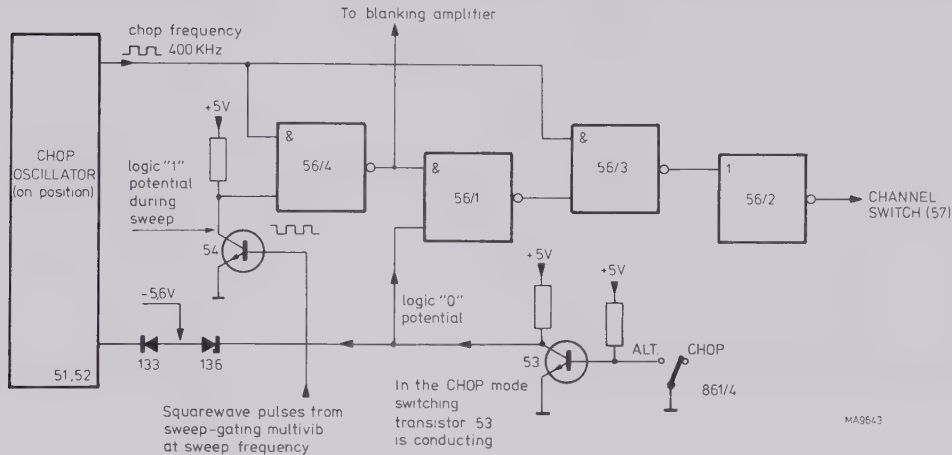

Fig. 3.6. Vertical channel switching – CHOP mode
- The CHOP pushbutton 861/4 disconnects the earth from the base of switching transistor 53, which then conducts. The collector voltage drops from 5 V to 0 V and, consequently, because of the zener diode voltage, the anode of diode 133 drops from -0.6 V to -5.6 V and switches on the CHOP oscillator 51, 52. The square wave voltage at the output of the CHOP oscillator (collector of transistor 52) operates the NAND gates to produce 400 kHz clock pulses for the channel switching flip-flop 57 (see Fig. 3.6).